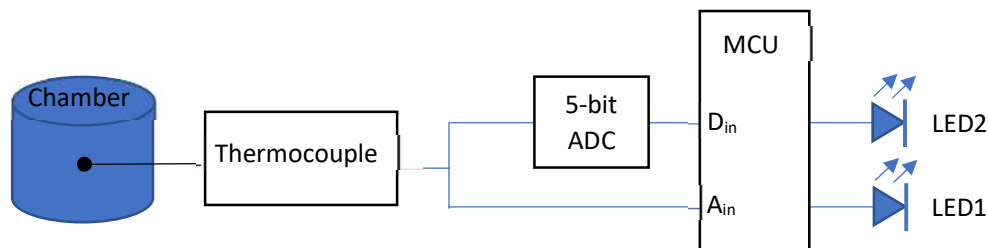

Figure 1: Thermocouple interface with MCU via 2 Analog-to-Digital Converters.
The NTU Student Union has proposed to launch a powered mobility device (PMD) sharing plan on campus. They have secured a sponsorship of a fleet of 50 PMDs which look similar to the one in Figure 1. The original controller of a PMD has only the following components:
As depicted in Figure 1, a thermocouple with a sensing resolution of 1.0°C senses the temperature of a chamber, T ($^{\circ}\text{C}$) and outputs a voltage, V_T which ranges from $0.0\text{ V} - 5.0\text{ V}$. The voltage output terminal is connected to an analog input pin of an Arduino UNO MCU and stored in a 16-bit integer named $D1$. The same terminal is also connected to another external ADC with 5-bit resolution. The digitized output is sent serially to a digital input pin of the Arduino UNO MCU and stored in a 8-bit integer named $D2$. LED1 and LED2 are associated with $D1$ and $D2$ respectively and will be turned on when the digitized T reaches a certain threshold. Assume that there is no noise in the signals.
- (a) Referring to Fig. 1 and Fig. 2 of the datasheet, describe the steps to calibrate out offset output voltage in the following signal conditioning implementations: